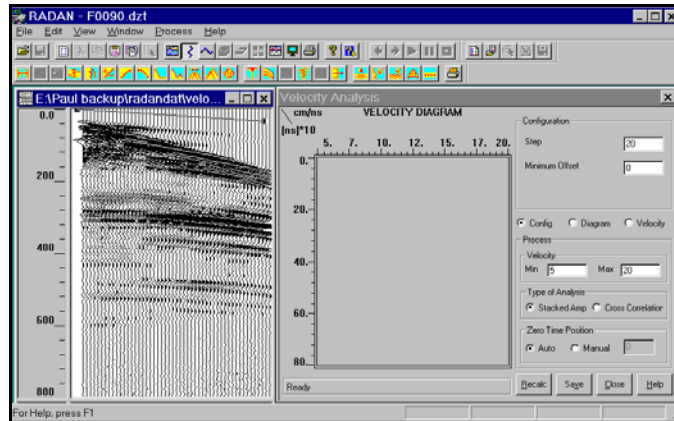

Figure 62: Velocity analysis processing window.
- 7** Upon activating the Velocity Analysis function, you will see the following window on your screen (Figure 62):